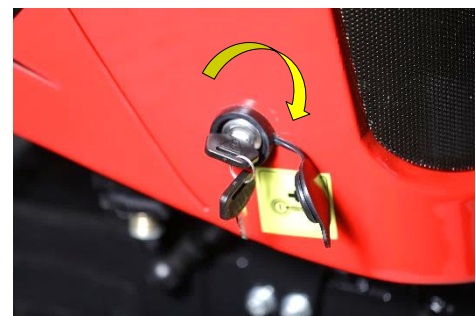

Fig.4.2
1. Firstly, insert the key into the keyhole provided at the front of bonnet as shown in (fig. 4-2) Rotate it clockwise direction.